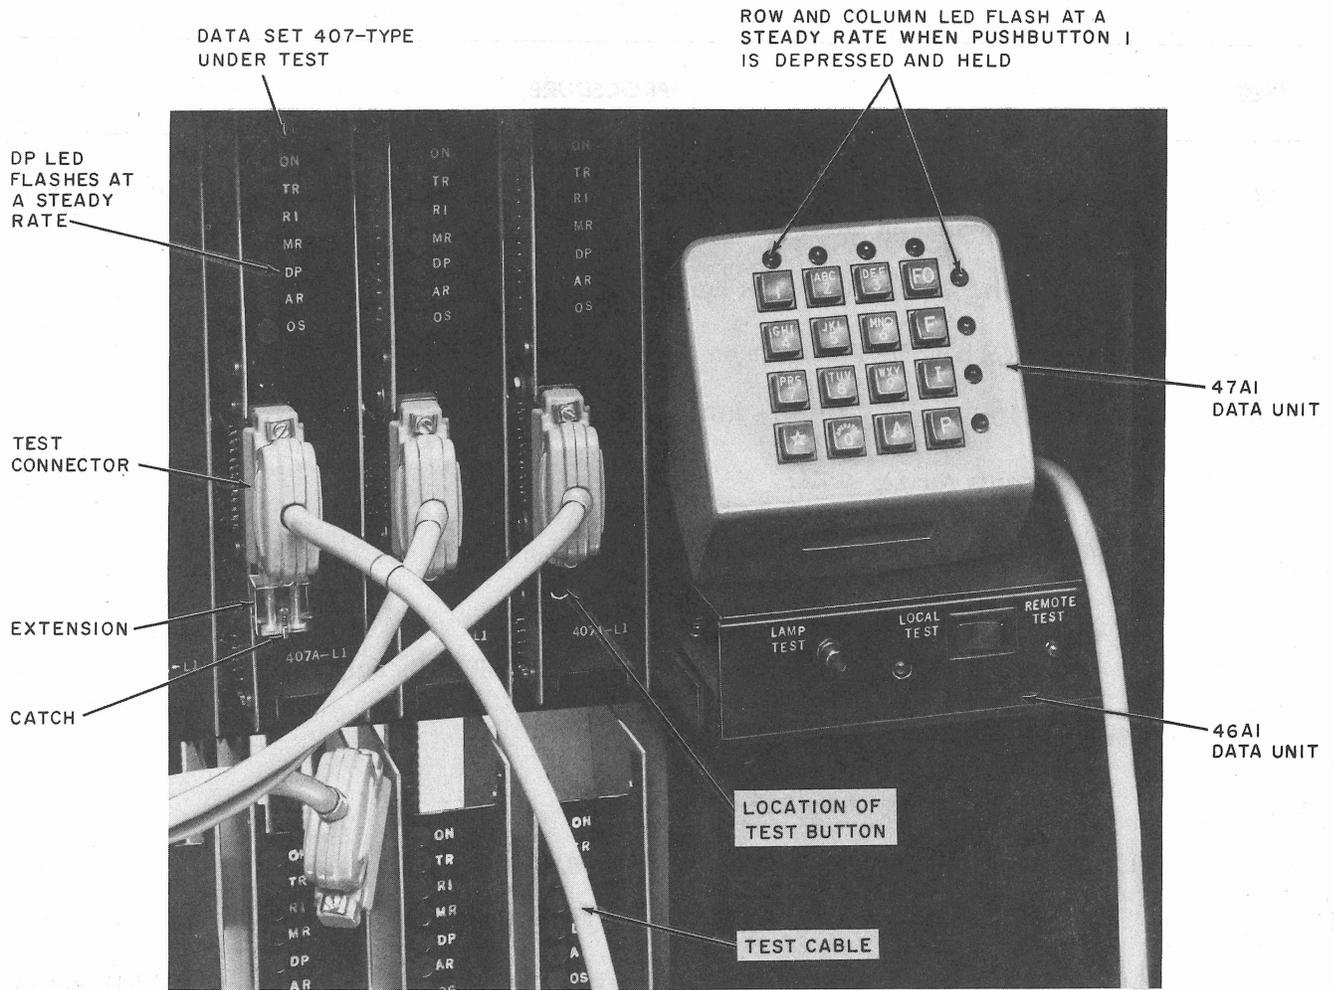

Fig. 1—Data Set 407-Type Test Arrangement—Typical
**1.06** When a data set is placed in the remote test mode, the data set is connected to a service line and then tested by the data test center. The local test may be conducted by the customer or telephone company (telco) employee using the test unit. A typical test arrangement is shown in Fig. 1.
**Requirement:** Associated row and column LEDs (on the 47A1 data unit) and DP LED (on the data set) flash at a steady rate (10 pulses per second). Refer to Fig. 1 for an example of which LEDs are flashing on the 47A1 data unit when pushbutton 1 is depressed.